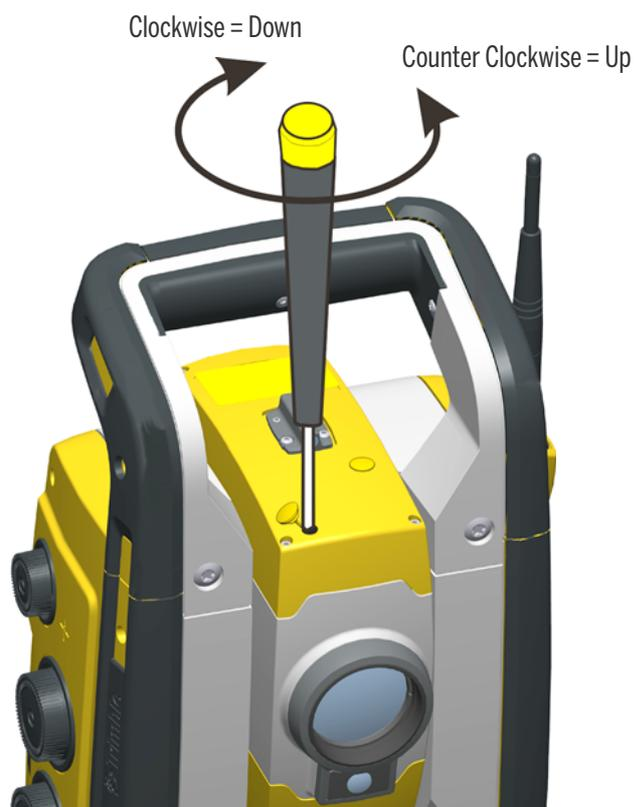

Figure 3.15 Vertical position adjustment
2. To correct the vertical position of the laser spot, insert the allen key into the vertical adjustment port and turn it as shown in figure 3.15.